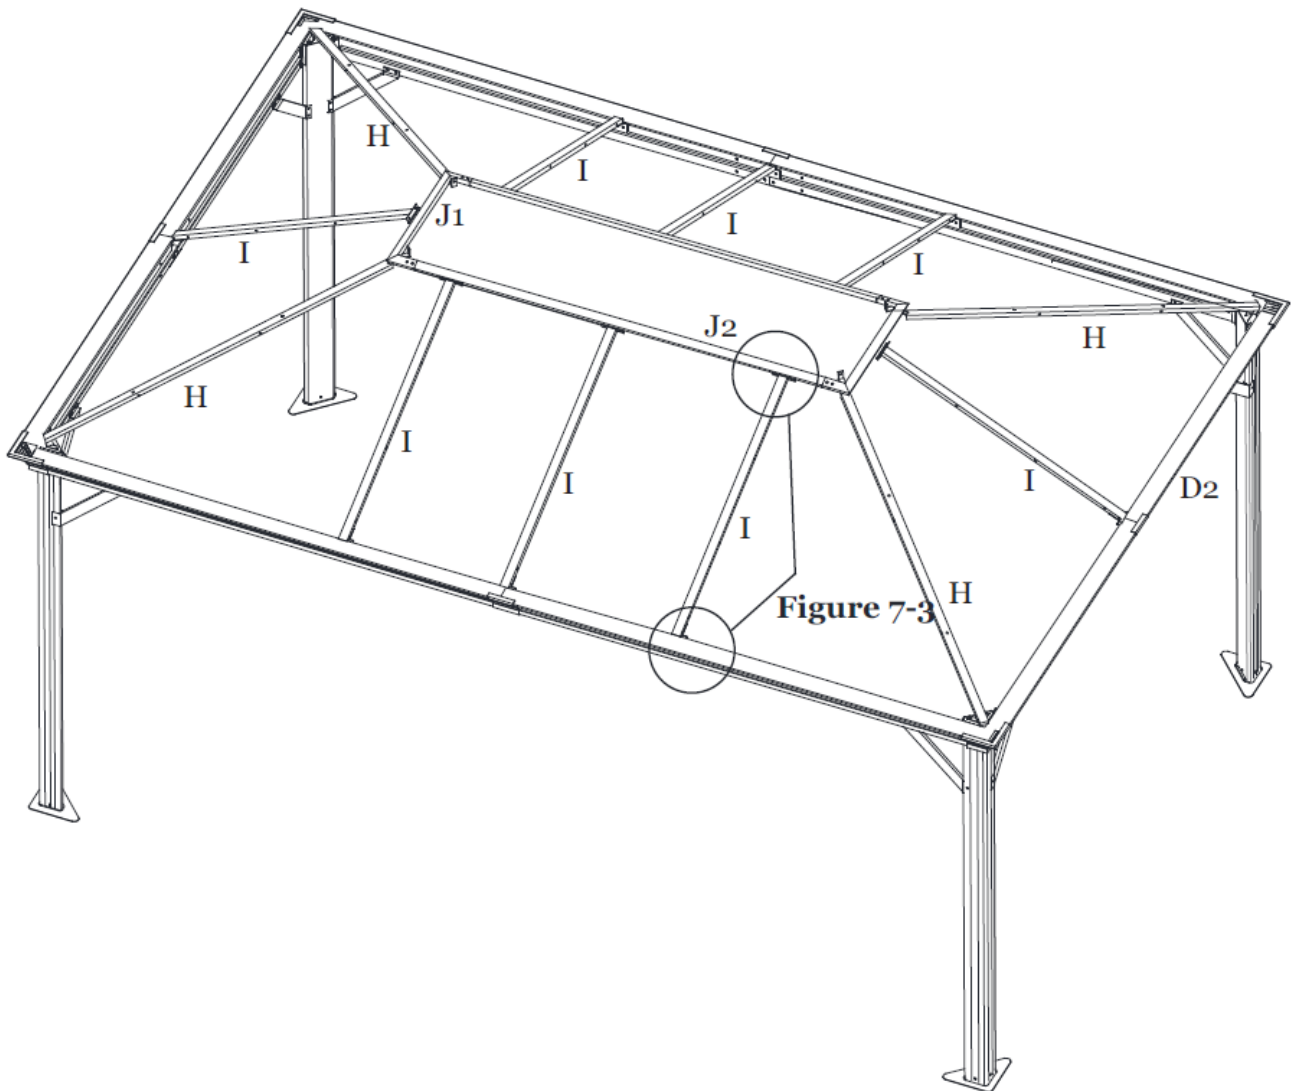

Figure 7-4
Step 7D: Repeat for each side. **Tighten all Bolts.** See Figure 7-4